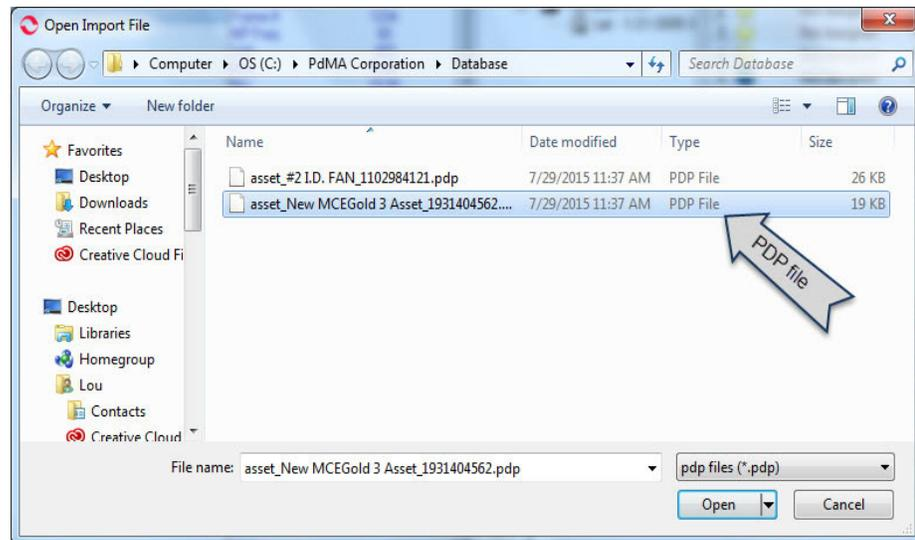

Figure 3-28: Open Import File Window
3. The Open Import File window shown in Figure 3-28 opens.